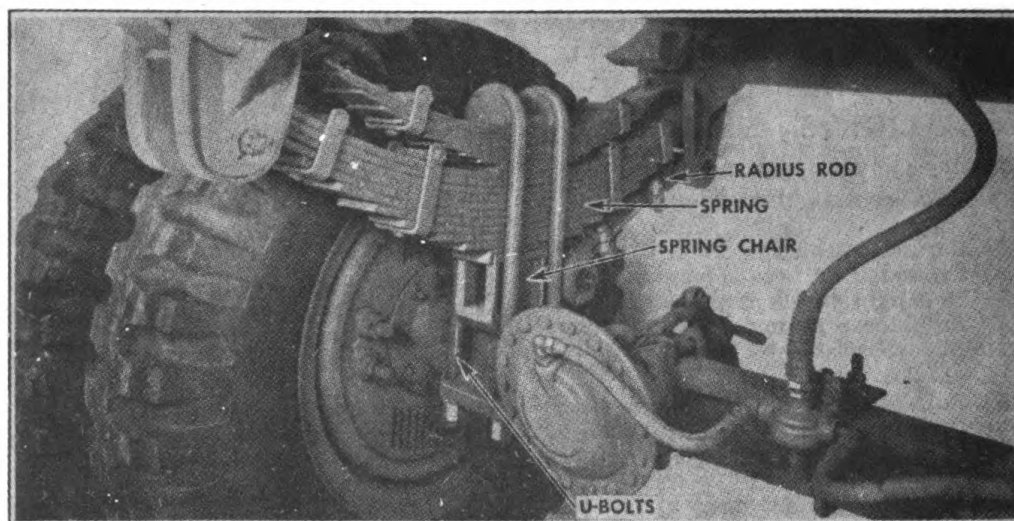

FIGURE 44. SPRING REMOVAL
5. SPRING HANGERS. (Fig. 44.)—*a.* Spring hangers and auxiliary spring brackets can be replaced without removing gear frame from main frame.
b. Front spring hanger removal.—(1) Remove the front end of radius rod from hanger. (See Radius Rods, paragraph 9, this section.)
1. **REMOVING SPRING** (Fig. 44).—*a.* This can be accomplished without removing the wheel or hub assembly from axle.